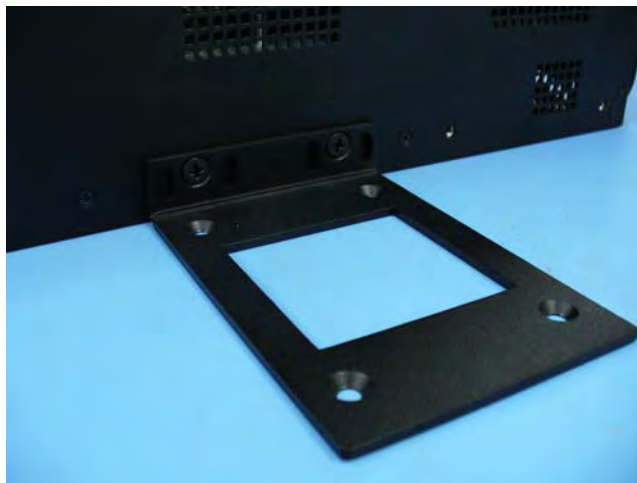

Figure 36. Using Hub Rack-Mounting Brackets for Direct Wall Installation
- 2 Mount both of the rack mounting brackets using #10-32 machine screws (see Figure 36).